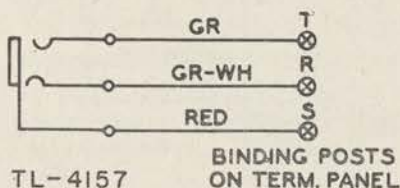

FIGURE 10.—Outgoing line circuit.
**7. Cabinet BE-70-B.**—The cabinet BE-70-B, wire chief's testing cabinet, may be mounted in any convenient location, either adjacent to the switchboard, or in the terminal room near the distributing frame. When the testing cabinet is located near the switchboard, connection may be made to the line to be tested by reaching across the face of the switchboard with the test cord from cabinet BE-70-B. When the testing cabinet is located near the main distributing frame, connections to the line to be tested may be made with a test shoe. The *T*, *R*, and *S* test cord terminals in cabinet BE-70-B may also be connected to the corresponding terminals of an outgoing line circuit, in order to provide means of testing lines from the switchboard, even though the testing cabinet may be located at some distance from the switchboard. Connection between the outgoing line circuit jack and the line jack of the circuit to be tested is made at the switchboard by means of a patching cord. The outgoing line circuit must be of the type that has no series or bridged line equipment, such as is shown in figure 10. Details of installation and method of operation of cabinet BE-70-B are covered in TM 11-345.
common-battery switchboards, switchboards BD-74 and BD-78. For two-way service connect this circuit to a circuit in the distant switchboard which is equipped with a drop or ring-down relay. For incoming service only at switchboard BD-89-A, connect this circuit to a jack circuit (such as shown in fig. 10) at the distant switchboard. This latter connection may also apply to interposition trunks when three or more switchboards BD-89-A, B, or C, are installed as one exchange.
**11. Outgoing line circuit (fig. 10).**—This circuit may be used as the outgoing end of a one-way trunk to other switchboards or as an interposition trunk to another switchboard in the same group. The apparatus consists of a jack connected to the terminal strip. No